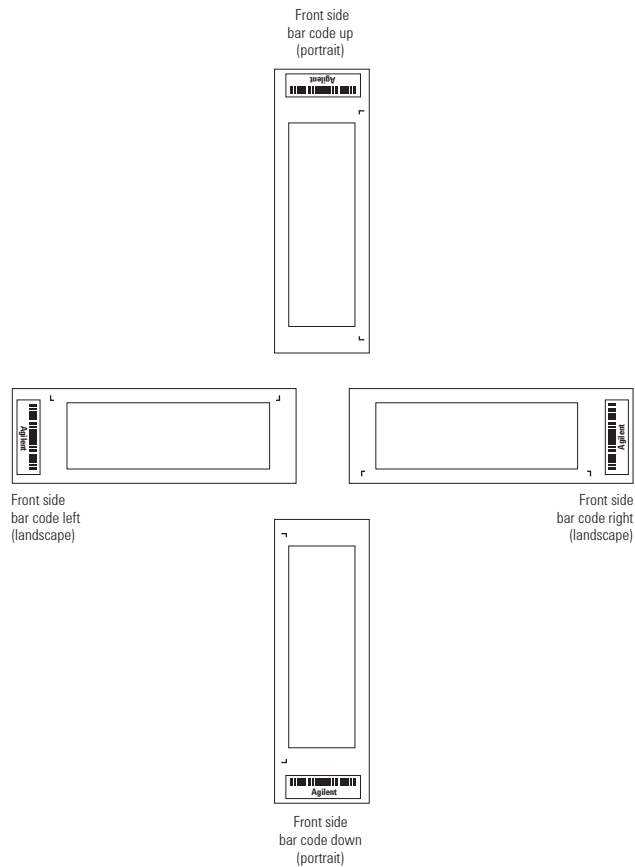

Figure 33. Microarray slide orientation
- If the image produced by the non-Agilent scanner is oriented in a “portrait” or “landscape” mode, “Agilent”-labeled barcode left-side, right-side, up or down, as viewed as an image in the imaging software (see **Figure 33**).